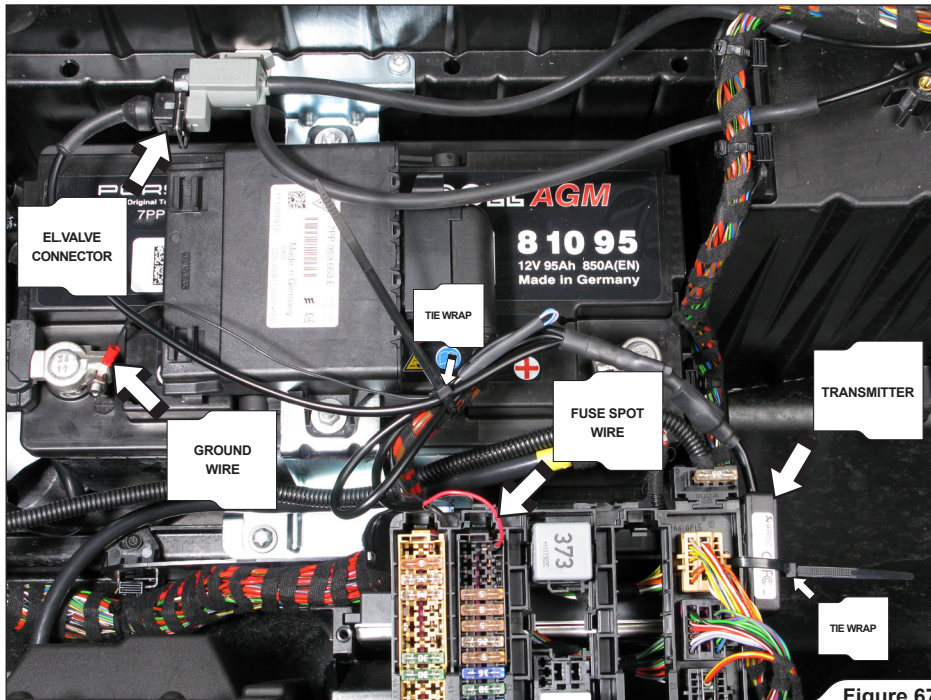

Figure 67
- Link the transmitters red wire pin (power supply) to the **right** side of the free fuse spot, screw the black ground wire to the battery **negative** terminal, connect the connector to the electromagnetic valve and secure the transmitter, as shown (**Figure 67**).